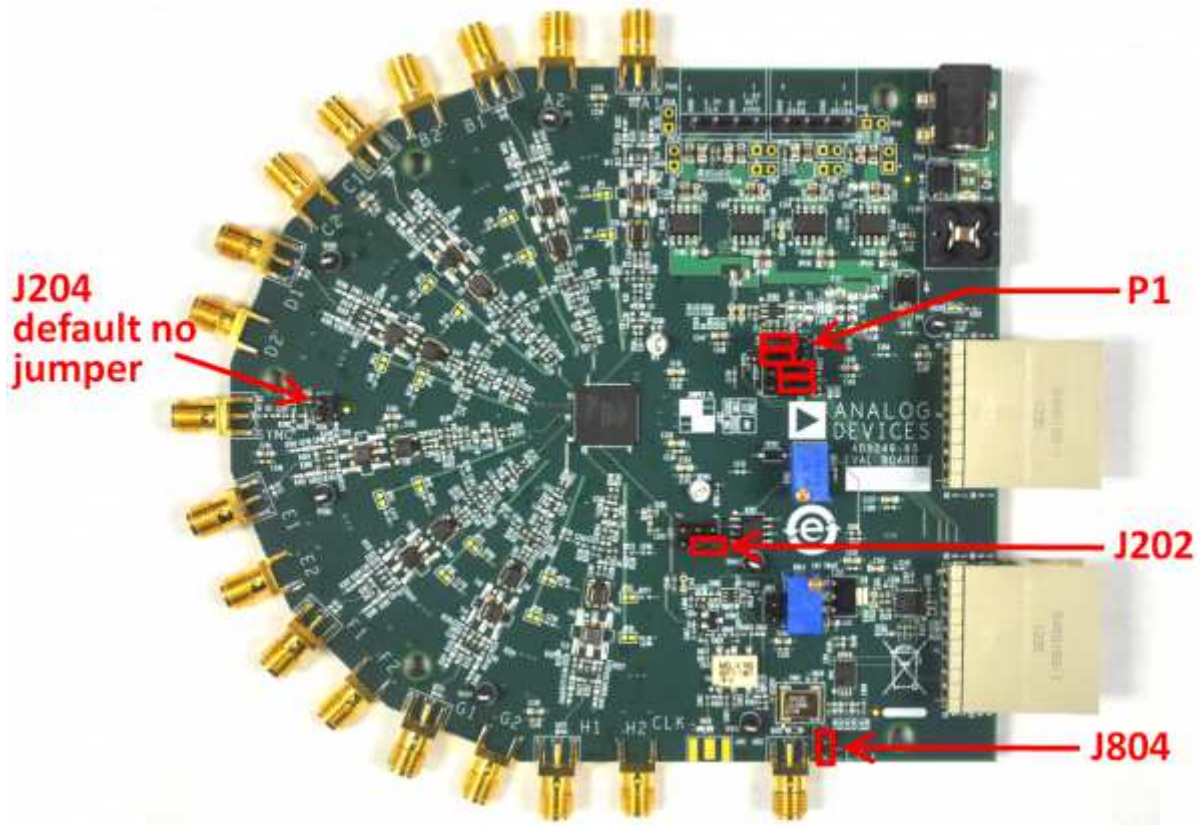

Figure 2. Default Jumper Connections for AD9249-65EBZ Board
2. On the ADC evaluation board, confirm that the jumpers are installed as shown in Figure 2.
Set the jumper settings/link options on the evaluation board for the required operating modes before powering on the board. The functions of the jumpers are described in Table 1. Figure 2 shows the default jumper settings.
J202	This jumper selects between internal $V_{REF}$ and external $V_{REF}$ . To choose the ADC's internal 1V reference, connect Pin 3 (DUT_SENSE) to Pin 5 (GND) as shown in Figure 2. To use the on-board <a href="#">AD822</a> buffered reference, connect Pin 2 (DUT_SENSE) to Pin 1 (AVDD), and connect Pin 4 (DUT_VREF) to Pin 6 (EXT_REF). Adjust external VREF to be 1.0V using potentiometer R202. To apply a reference voltage from an external off-board source, connect Pin 2 (DUT_SENSE) to Pin 1 (AVDD) and apply the reference voltage to Pin 4 (DUT_VREF). The AD9249 reference voltage is specified to be 1.0 V.